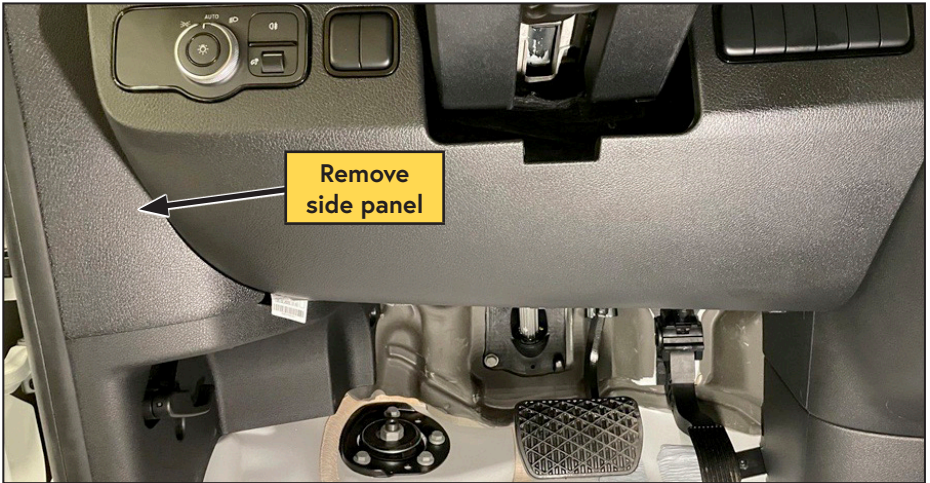

Figure 46 — Remove side panel
- Remove the side panel to gain access to the OBD II port (Figure 46).